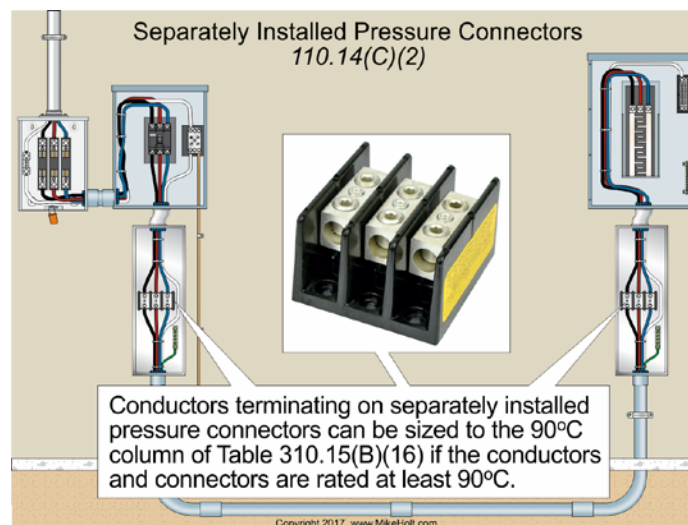

Figure 110-21
(2) Separate Connector Provisions. Conductors can be sized to the 90°C column of Table 310.15(B)(16) if the conductors and pressure connectors are rated at least 90°C. Figure 110-21